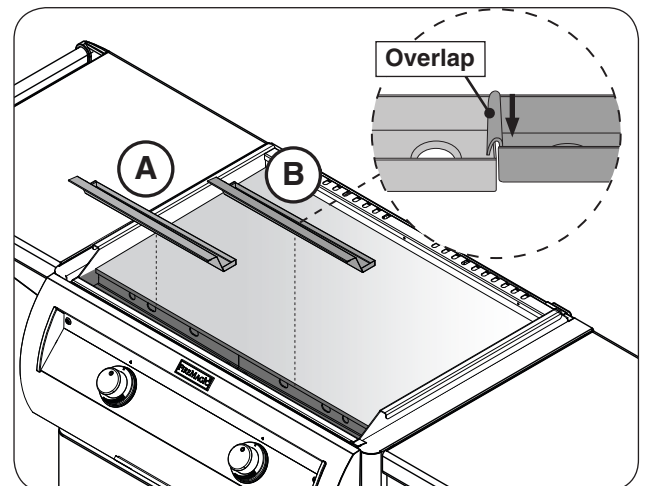

Fig. 18-2 Install drip collector trough
1. Place the left piece inside the griddle drip reservoir and completely slide it to the left side (see Fig. 18-2,A).
2. Place the right piece and ensure it overlaps the left tray as shown in Fig. 18-2, B.